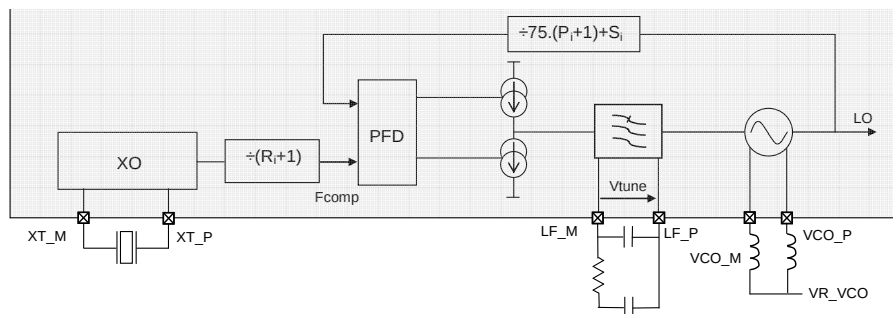

Figure 5: Frequency Synthesizer Description
The crystal oscillator (XO) forms the reference oscillator of an Integer-N Phase Locked Loop (PLL), whose operation is discussed in the following section. Figure 5 shows a block schematic of the SX1211 PLL. Here the crystal reference frequency and the software controlled dividers R, P and S determine the output frequency of the PLL.
As shown in Figure 5 the PLL structure comprises three different dividers, R, P and S, which set the output frequency through the LO. A second set of dividers is also available to allow rapid switching between a pair of frequencies: $R1/P1/S1$ and $R2/P2/S2$. These six dividers are programmed by six bytes of the register `MCPParam` from addresses 6 to 11.